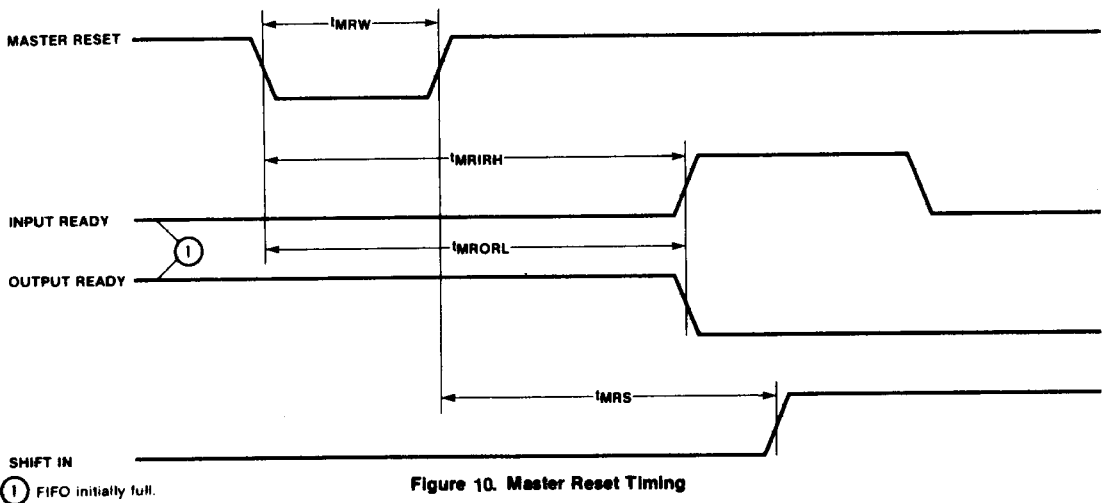

Figure 10. Master Reset Timing
After power up the Master Reset is pulsed low (Fig. 10) to prepare the FIFO to accept data in the first location. When Input Ready (IR) is HIGH the location is ready to accept data from the  $D_x$  inputs. Data then present at the data inputs is entered into the first location when the Shift In (SI) is brought HIGH. A SI HIGH signal causes the IR to go LOW. Data remains at the first location until SI is brought LOW. When SI is brought LOW and the FIFO is not full, IR will go HIGH, indicating that more room is available. Simultaneously, data will propagate to the second location and continue shifting until it reaches the output stage or a full location. The first word is present at the outputs before a shift out is applied. If the memory is full, IR will remain LOW.